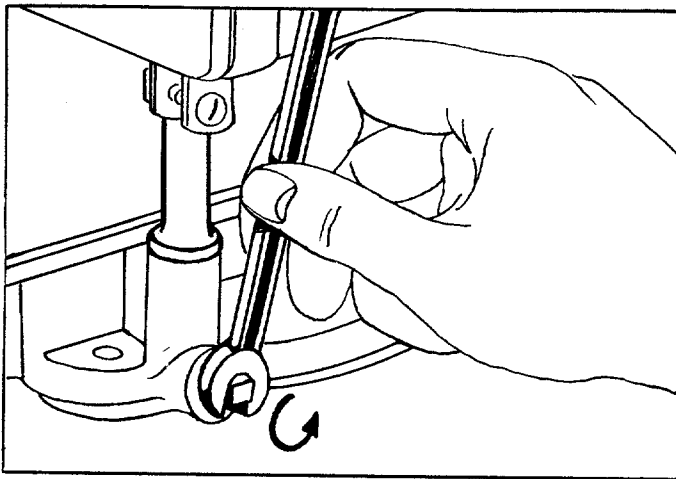

FIGURE 14. OIL DRAIN
After the first five hours of operating a new engine, drain the oil (See figure 14.) from the crankcase while engine is still hot and refill crankcase with new oil; thereafter change the oil every 25 hours of operation. This procedure ensures for minimum wear of engine parts and provides for virtually trouble-free operation. To change the oil, proceed as follows:
Step 1. With the machine on level ground, place a suitable metal container under the oil drain plug, then remove the drain plug. See figure 14.